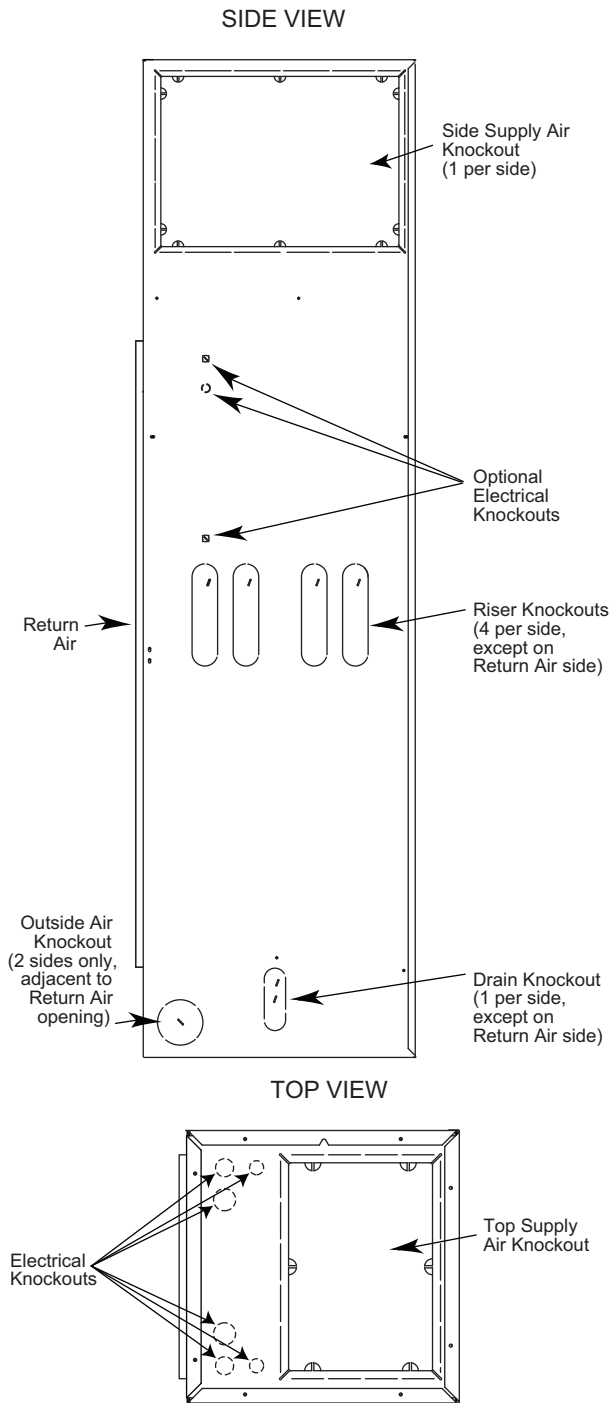

Fig. 20 – Locate 42SUA Unit Knockouts
1. Three sides of each universal stack unit have four supply and return riser knockouts along the center and one drain knockout near the lower part of the unit (see Fig. 20). Identify whether your application uses a 2-pipe or 4-pipe configuration.
Each side of the unit has one supply air knockout as well as a supply air knockout on the top of the unit (refer to Fig. 20).